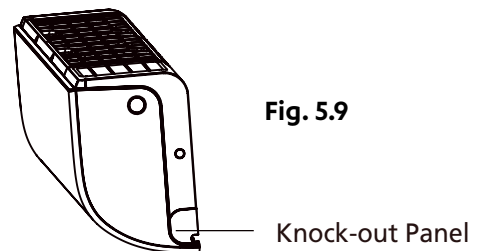

Fig. 5.9
2. If the wall hole is behind the unit, keep the knock-out panel in place. If the wall hole is to the side of the indoor unit, remove the plastic knock-out panel from that side of the unit. (See **Fig. 5.9**). This will create a slot through which your piping can exit the unit. Use needle nose pliers if the plastic panel is too difficult to remove by hand.